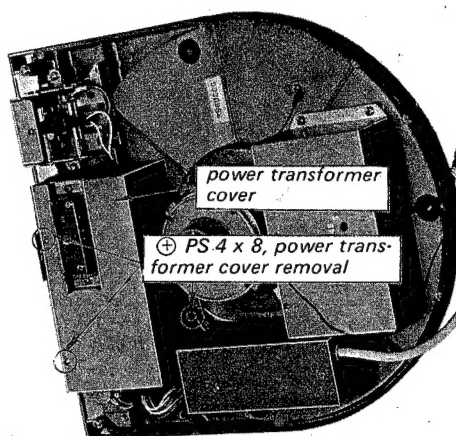

Fig. 2-6. Power transformer cover removal
2. Remove the two screws (⊕ PS 4 x 8) and securing the power transformer cover to the heat sink as shown in Fig. 2-6, if necessary.